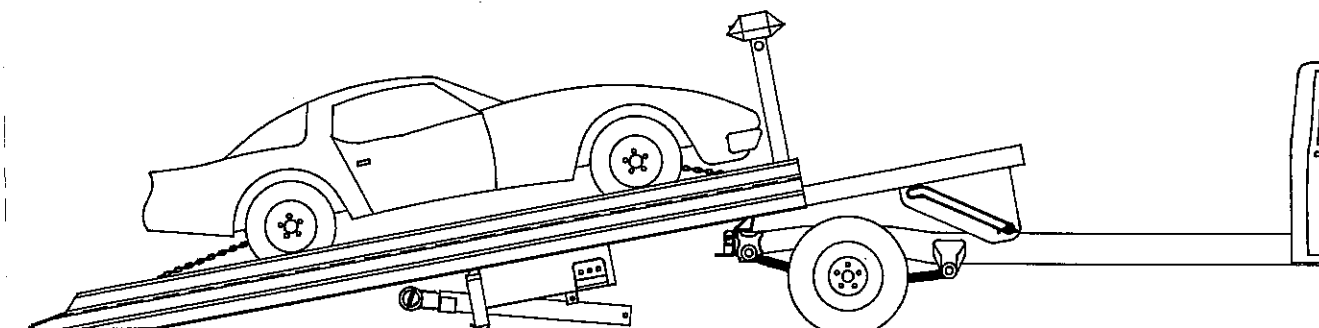

Figure 6-2.6
- 6-2.6 Slide the bed back until the bed touches the ground. (See fig. 6-2.6)